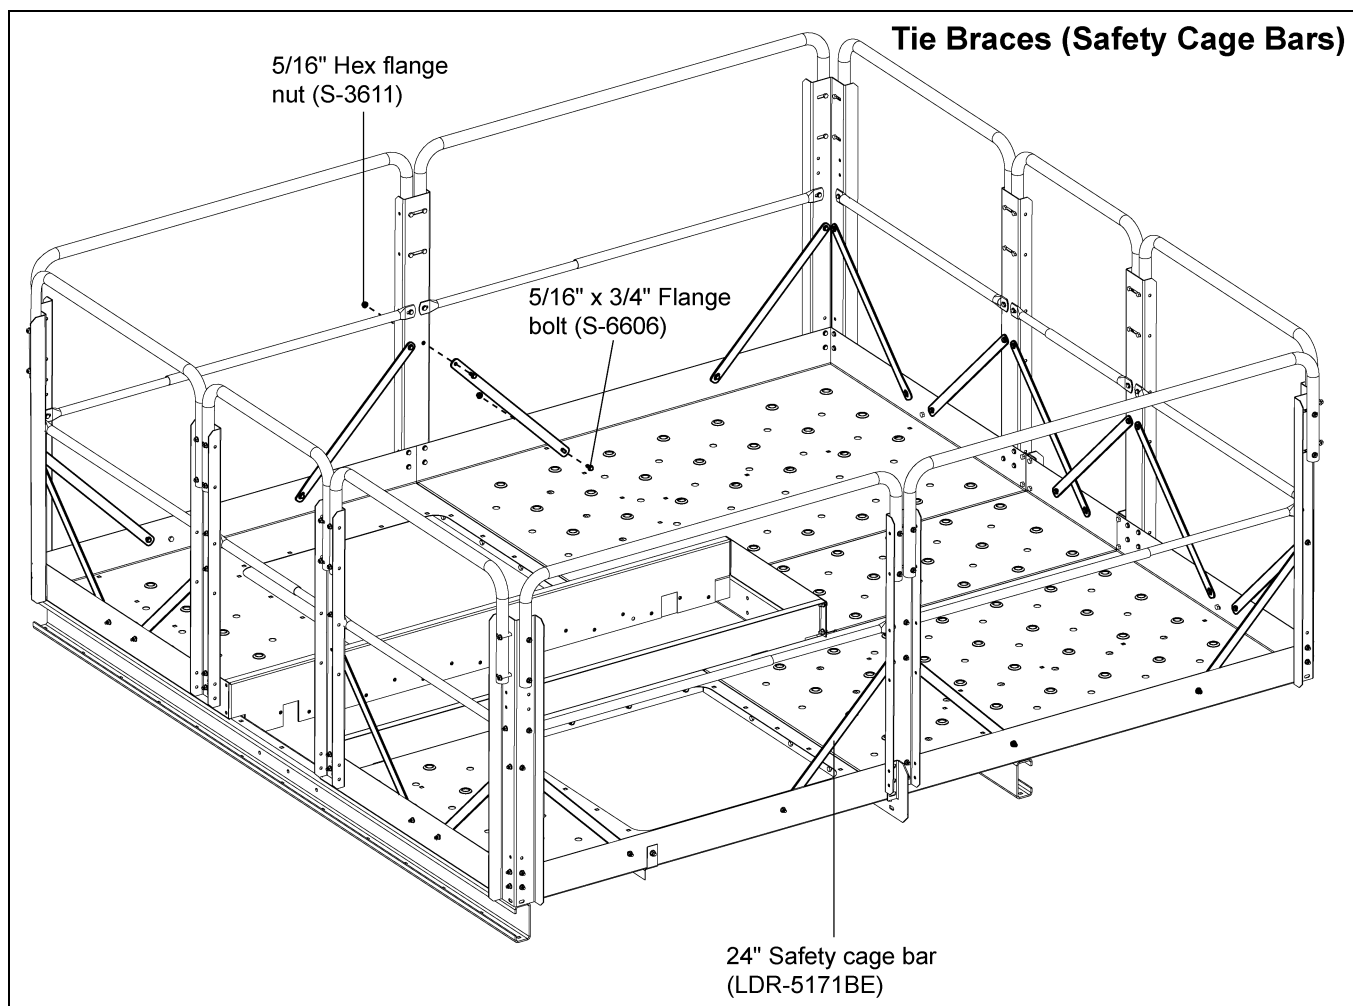

Figure 8V Safety Cage Cross Brace
1. At each of the four (4) "W" corner posts (HP1648HWP), attach two (2) tie braces (safety cage bar LDR-5171BE) from the lower half of the post to the deck kick plate using 5/16" nuts (S-3611) and 5/16" x 3/4" flange bolts (S-6606). (See Figure 8V.)